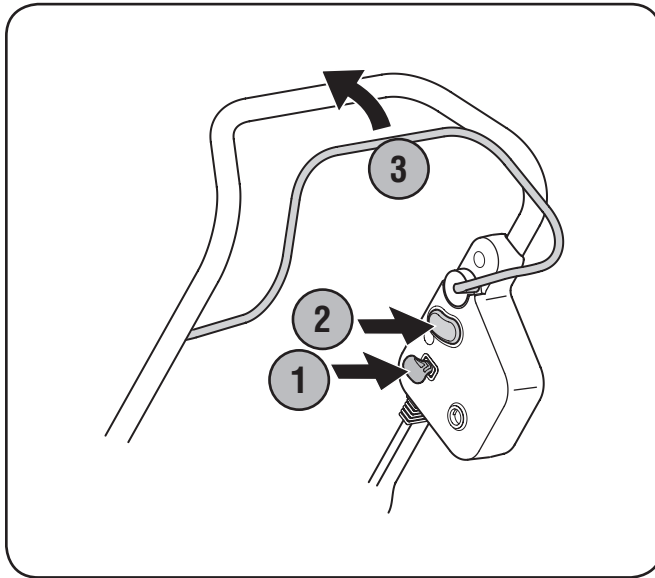

Figure 5-1
1. Insert key. Refer to Fig. 5-1.